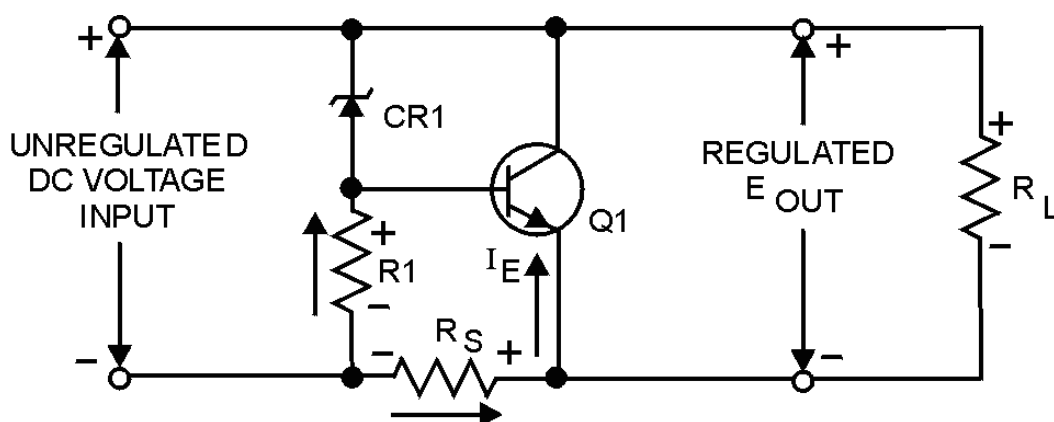
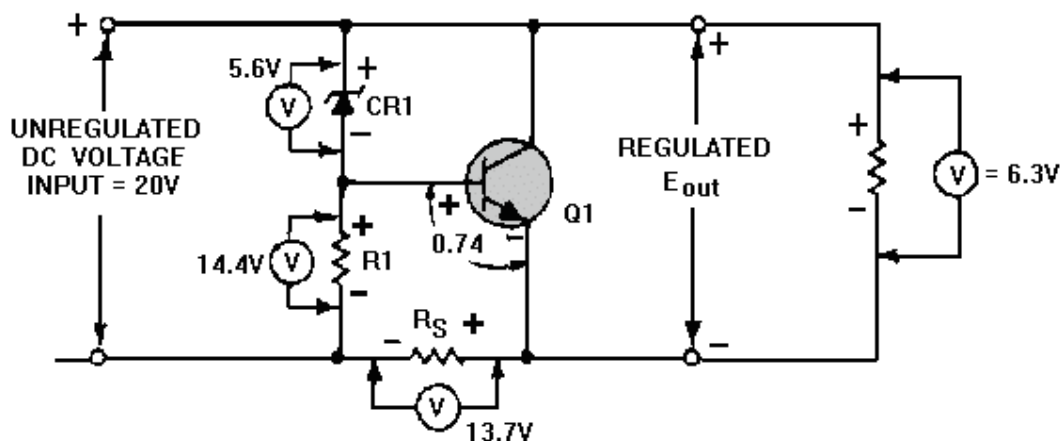

Figure 4-37.—Shunt voltage regulator.
Figure 4-38.—Shunt voltage regulator (with voltages).
The schematic shown in figure 4-37 is that of a shunt voltage regulator. Notice that Q1 is in parallel with the load. Components of this circuit are identical with those of the series voltage regulator except for the addition of fixed resistor R_S . As you study the schematic, you will see that this resistor is connected in series with the output load resistance. The current limiting resistor (R1) and Zener diode (CR1) provide a constant reference voltage for the base-collector junction of Q1. Notice that the bias of Q1 is determined by the voltage drop across R_S and R1. As you should know, the amount of forward bias across a transistor affects its total resistance. In this case, the voltage drop across R_S is the key to the total circuit operation.
Figure 4-38 is the schematic for a typical shunt-type regulator. Notice that the schematic is identical to the schematic shown in figure 4-37 except that voltages are shown to help you understand the functions of the various components. In the circuit shown, the voltage drop across the Zener diode (CR1) remains constant at 5.6 volts. This means that with a 20-volt input voltage, the voltage drop across R1 is 14.4 volts. With a base-emitter voltage of 0.7 volt, the output voltage is equal to the sum of the voltages across CR1 and the voltage at the base-emitter junction of Q1. In this example, with an output voltage of 6.3 volts and a 20-volt input voltage, the voltage drop across R_S equals 13.7 volts. Study the schematic to understand fully how these voltages are developed. Pay close attention to the voltages shown.
Now, refer to view A of figure 4-39. This figure shows the schematic diagram of the same shunt voltage regulator as that shown in figure 4-38 with an increased input voltage of 20.1 volts. This increases the forward bias on Q1 to 0.8 volt. Recall that the voltage drop across CR1 remains constant at 5.6 volts. Since the output voltage is composed of the Zener voltage and the base-emitter voltage, the output voltage momentarily increases to 6.4 volts. At this time, the increase in the forward bias of Q1 lowers the resistance of the transistor allowing more current to flow through it. Since this current must also pass through R_S , there is also an increase in the voltage drop across this resistor. The voltage drop across R_S is now 13.8 volts and therefore the output voltage is reduced to 6.3 volts. Remember, this change takes place in a fraction of a second.
- Q33. In figure 4-37, the voltage drop across R_S and R_1 determines the amount of base-emitter _____ for Q_1 .